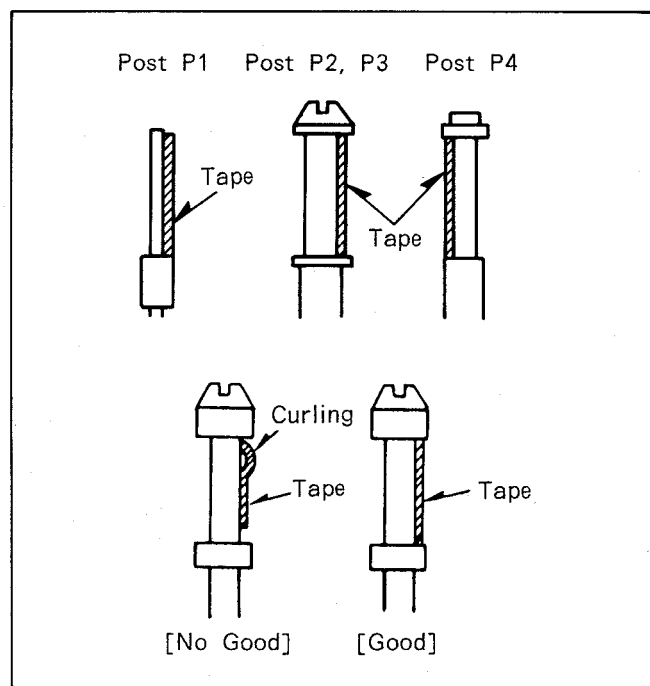

Fig. M5
7. Playback the cassette tape and make sure that the edges of the tape are not curling at the bottom or top end of the P1, P2, P3 and P4 POSTS as shown in Fig.M5.